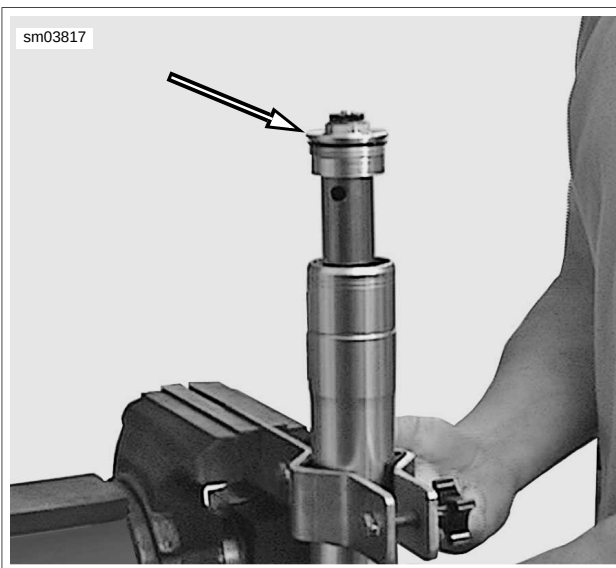

Figure 2-88. Fork Cap: XB12STT/XB12XT/XB12X
3. See Figure 2-88. Loosen the fork cap and pull up exposing the entire preload and rebound assembly.